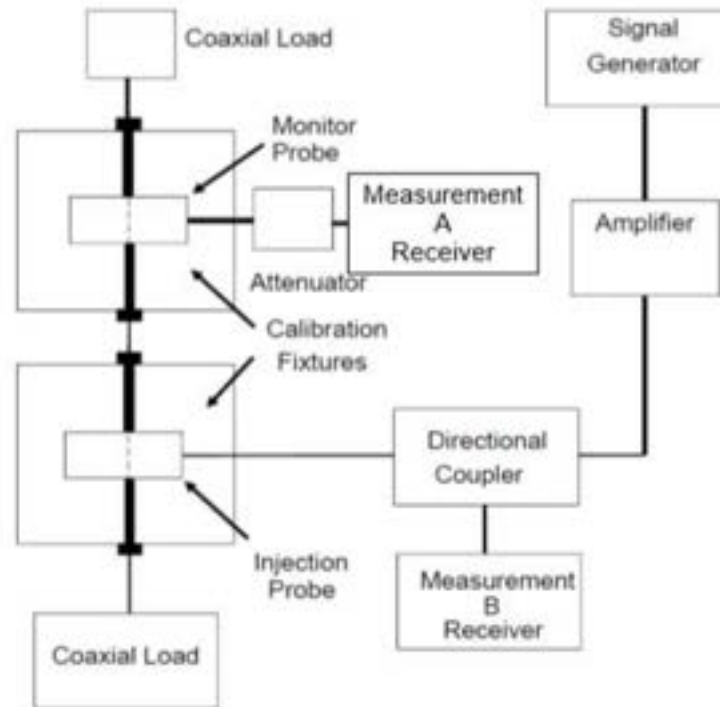

Figure 5.3-4: CS114 Verification Setup
1. Configure the verification of the test system using Figure 5.3-4.